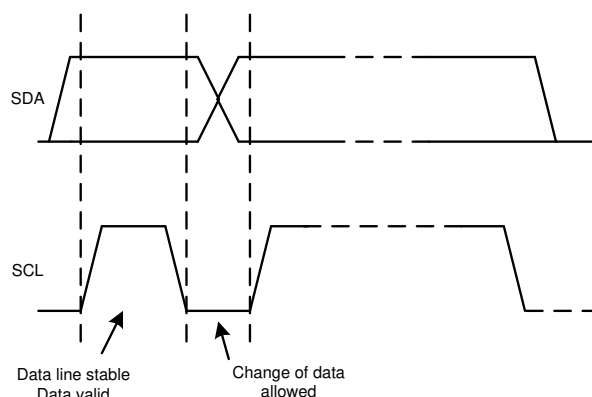

図 7-17. Bit Transfer on the I²C Bus
2. The controller then generates the SCL pulses, and transmits the 7-bit address and the read/write direction bit (R/\bar{W}) on the SDA line. During all transmissions, the controller makes sure that data are valid. A valid data condition requires the SDA line to be stable during the entire high period of the clock pulse, as shown in 図 7-17. All devices recognize the address sent by the controller and compare the address to the respective internal fixed address. Only the target device with a matching address generates an acknowledge by pulling the SDA line low during the entire high period of the 9th SCL cycle, as shown in 図 7-15. When the controller detects this acknowledge, the communication link with a target has been established.